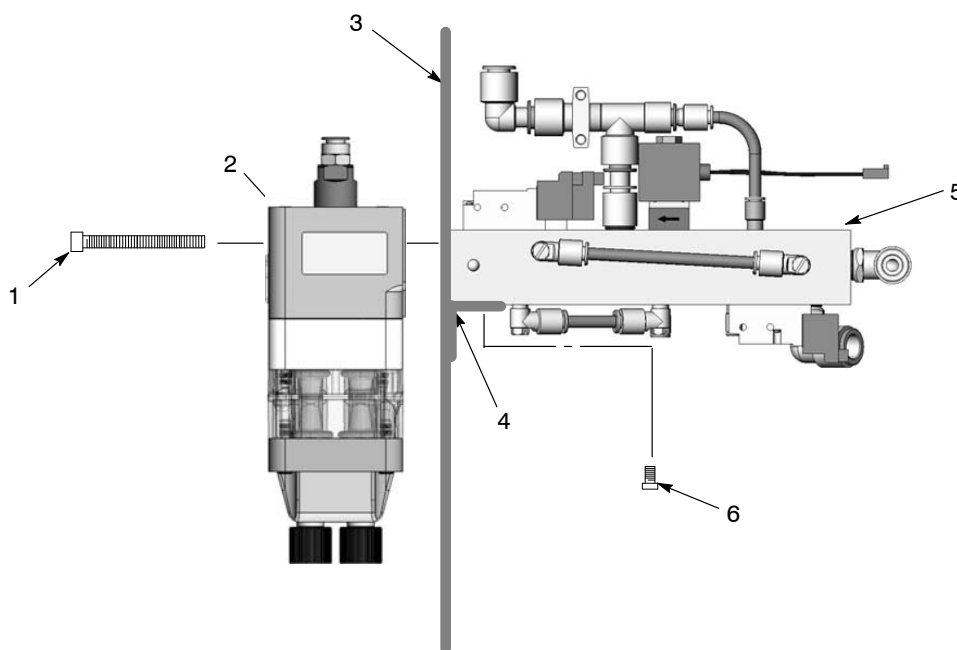

Figure 18 *Pump and Manifold Installation*
1. See Figure 18. Make sure that the gaskets on the pump (2) and manifold (5) are not damaged. If the gaskets are damaged, replace them.
2. Set the manifold onto the appropriate mounting bracket (4) against the pump panel wall (3). Secure the manifold with the mounting screws (6), but do not tighten the screws.
3. Secure the pump to the pump panel and manifold using the pump mounting screws (1). Tighten the pump mounting screws securely.